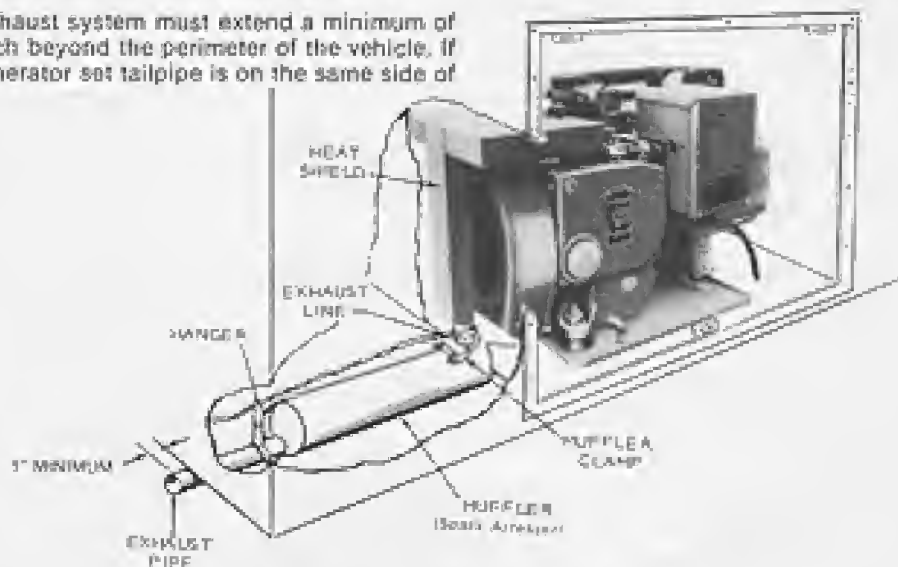

FIGURE 5. TYPICAL EXHAUST SYSTEM INSTALLATION
1. Where the exhaust system passes through the base or floor, leave adequate clearance as protection against exhaust pipe damage from vibration (Figure 5). The metal around the hole should be turned up or some type of collar used to prevent gas or oil from draining onto hot exhaust parts.